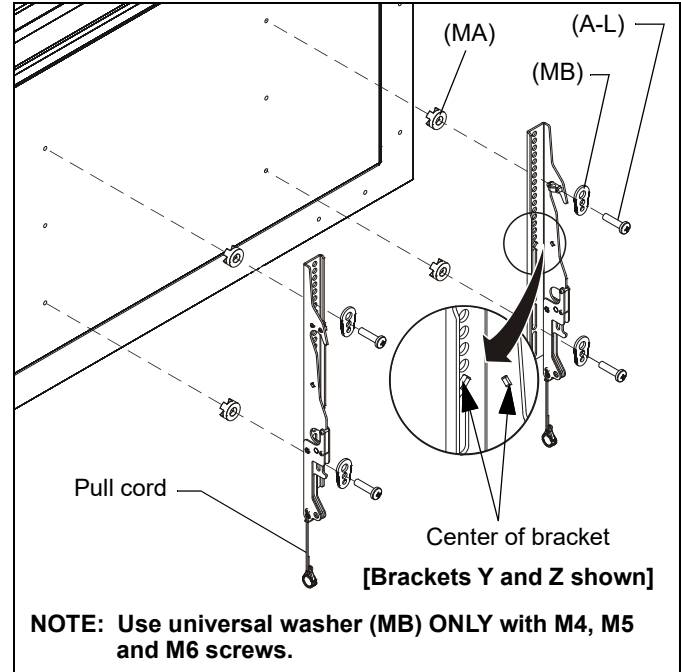

Figure 10
1. Align the center of the bracket (Y and Z or AA and BB) with center of screen. (See Figure 10)
2. Select correct screws, nesting spacers (if necessary) and universal washers (if required) from the hardware bag (A-M) and attach brackets to back of screen. (See Figure 10)